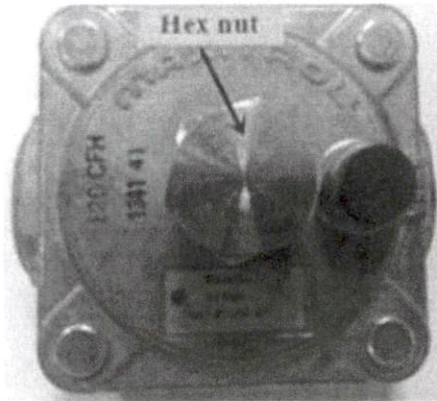
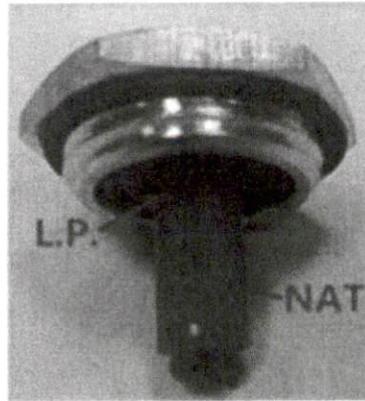

Fig. 8
Fig. 9
- 2、 Screw the hex nut (Fig.8) before connect air intake, ensure gas mark (Fig.9) on the plastic core match with connected gas source, if not, then pull out the plastic core and change another head, insert it again. The same as exchanging gas source.